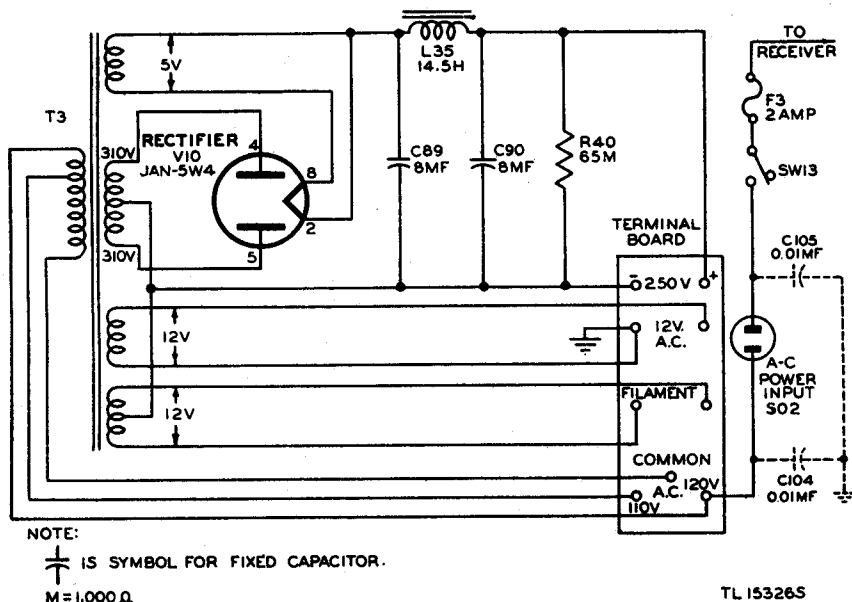

Figure 32. Rectifier RA-20, schematic diagram.
b. Power transformer T3 has a single primary winding and four secondary windings. (See fig. 32.) The primary winding is tapped to provide for an input of 110 or 120 volts. A Tube JAN-5W4 is used in a full-wave rectifier circuit and the resulting rectified voltage is filtered by choke L35 and capacitors C89 and C90 and
d. To prevent interference between receivers operating from a common a-c supply, capacitors C104 and C105 have been added to Rectifier RA-20 in later procurements of Radio Receivers BC-342-N and BC-344-D. These capacitors, shown dotted in figure 32, prevent the oscillator voltage from appearing on the a-c supply lines.